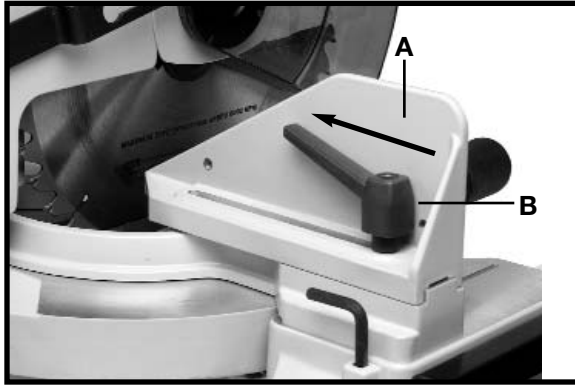
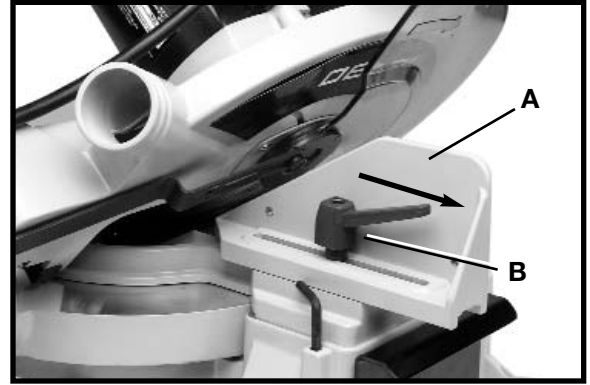

Fig. 21B
Fig. 21C
The sliding fence (A) Fig. 21B provides support of extra large workpieces and should be set as close as possible to the saw blade. When miter cutting (blade set 90 degrees to the table and at an angle to the right or left), set the fence all the way toward the blade (Fig. 21B). When bevel cutting (blade tilted at an angle to the table), move the fence away from the blade to allow for proper clearance for the saw blade and guard (Fig. 21C). To accomplish this, loosen the lockknob (B), slide the fence to the desired location, and tighten the lockknob.